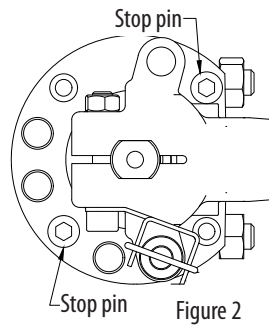

Figure 2
1. Insert and tighten both "stop pins" (2pcs) as shown in Figure 2.
2. Place hand lever on the valve as shown in (Figure 2 & 3).
3. Place locking plate on hand lever as shown in Figure 2. Fix it behind the ear and align the hole in the locking plate with hole for SHC screw on hand lever (Figure 3).